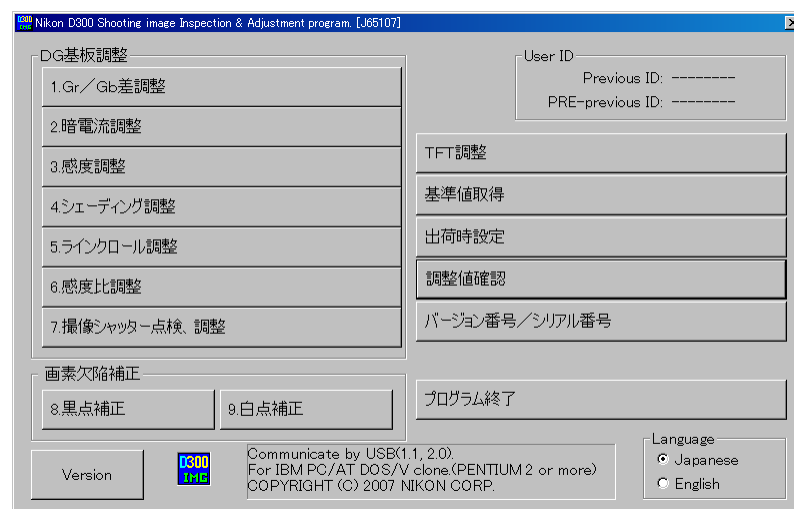

Fig.2
- (2) Select ENGLISH / JAPANESE in Language to display the appropriate menu. (ref. Fig.2)
- (3) Click the button to start adjustments.
- (4) Follow the instructions on screen.
- (5) To complete the procedure, click "QUIT" button or "X" button at the upper-right corner of the menu.